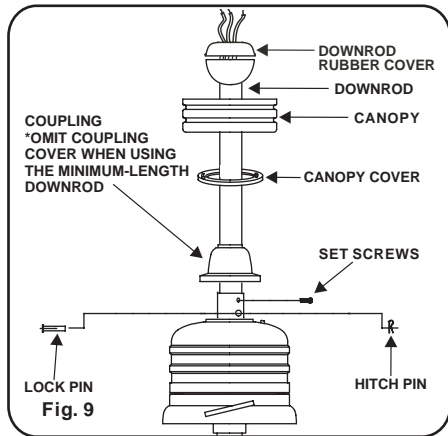

Fig. 9
Step 5. Slip coupling cover, canopy cover and canopy onto downrod. (Fig. 9) Carefully reinstall hanger ball onto rod being sure that cross pin is in the correct position, set screws are tighten and wires are not twisted.
Step 6. Place downrod rubber cover onto the hanger ball. (Fig. 9)